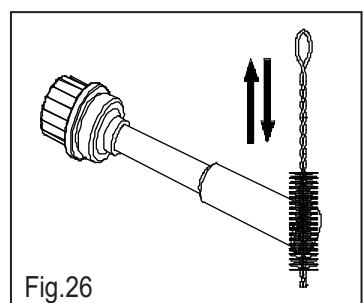

Fig.26
- g) Clean swirl vane with wire brush. (Fig. 26)